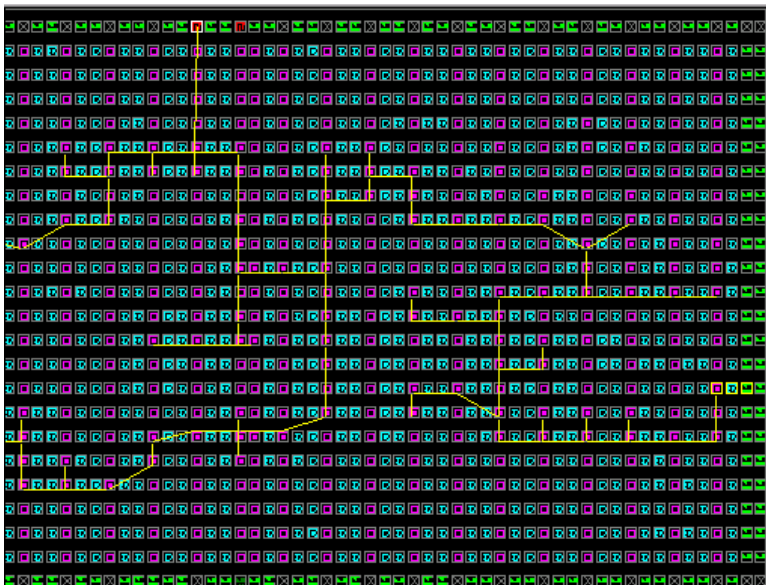

Figure 2-6. Minimum Spanning-Tree Mode
- 3. Select the placed macro in the ChipView window or Placed list box.** Select multiple macros by holding down the CTRL key while selecting macros. ChipEdit displays the minimum spanning tree in the ChipView window, as seen in Figure 2-6.